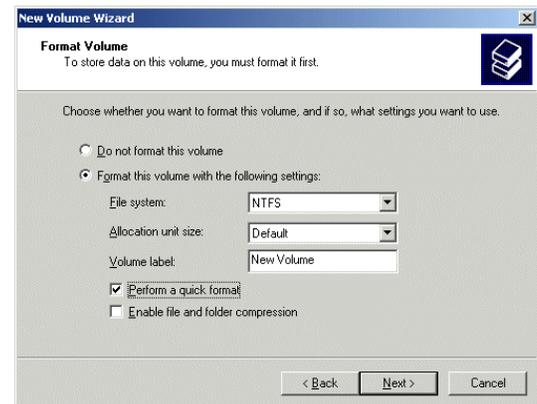

Figure 2-27
- 27) Click the **Next** button to be presented with the **Format Volume** screen. Click the **Format this volume with the following settings** item as shown in Figure 2-27. Ensure that the settings are **File system = NTFS**, **Allocation unit size = Default**, and **Volume Label = user defined** (the default is "New Volume"). Also ensure that the **Perform a quick format** item is selected.